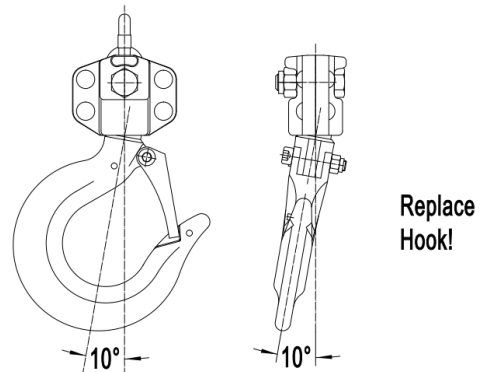

Figure 5
- The vertical angle at the neck of the hook reaches 10° (see Figure 5).
4. Rotate the handwheel clockwise while simultaneously pulling down on the load chain, as shown in Figure 5. The handwheel will snap back into place, re-engaging the gear.